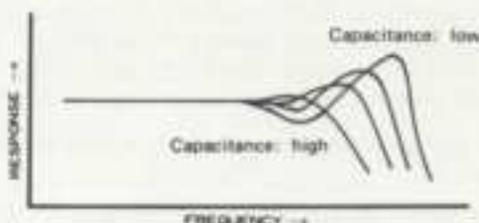

Fig. 13
Typical moving magnet (MM) cartridges have resonance peaks at high frequencies, as is shown in Fig. 12. However, the height of the peaks can be varied by changing the load resistance ($k\Omega$). The peaks increase as the resistance is increased. In addition, the resonance frequency (center of the peak frequency) can be varied by changing the load capacitance (pF), as is shown in Fig. 13. If the capacitance is increased, then the resonance frequency is lowered and the peaks are increased.
The example in Fig. 13 shows typical high-end frequency curves. In a case like this, adjust both knobs for the desired response while listening to a record. With ordinary MM cartridges, the values are 50kiloohms and 100pF-200pF.